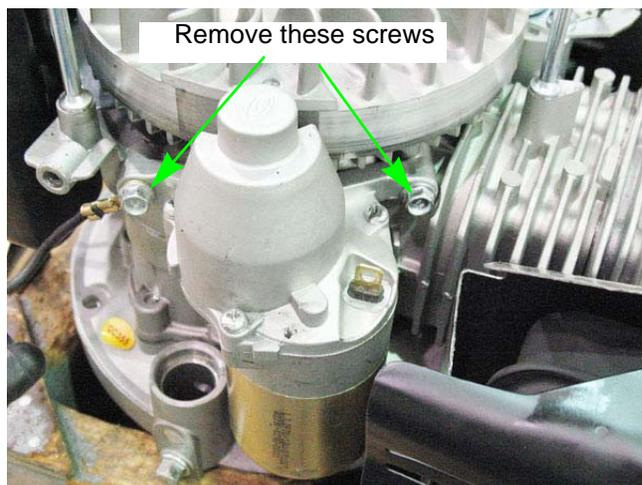

Figure 6.21
4. Remove the two screws that secure the starter using a 10mm wrench. See Figure 6.21.